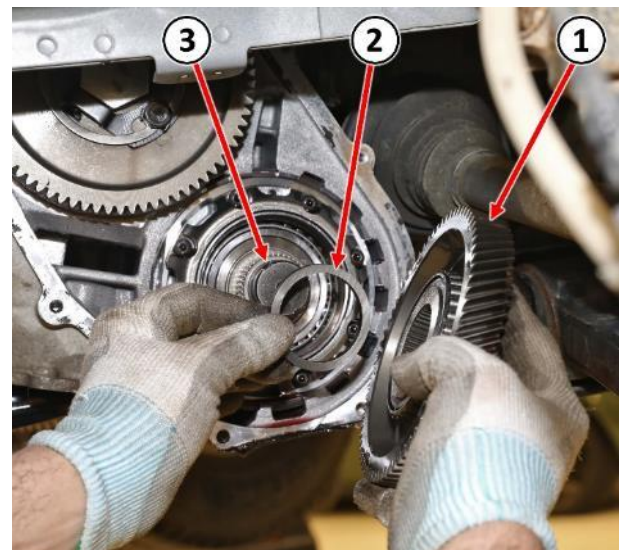

Figure 24 – Transfer Gear and Select Shim
36. Remove the transfer gear (underdrive compounder side) (1) and select shim (2) from the underdrive compounder assembly (3) (Figure 24).